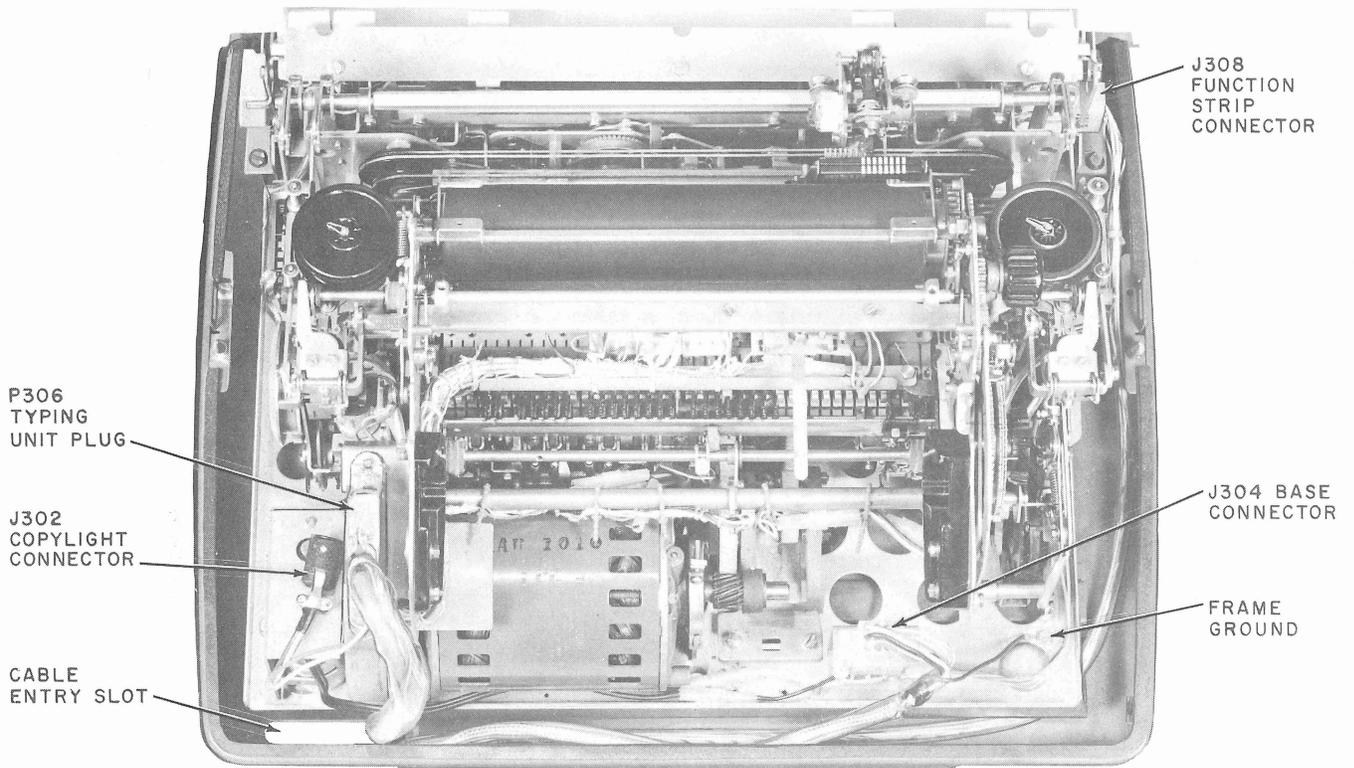
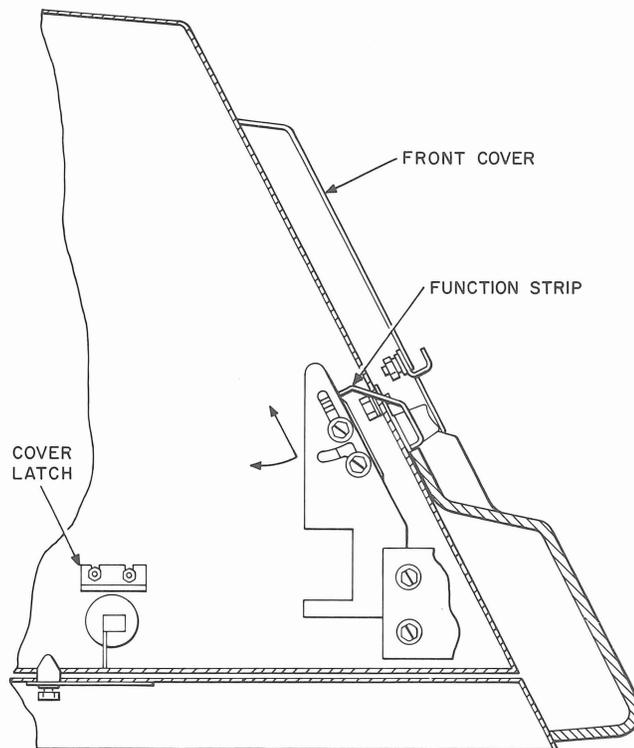

Fig. 3—Typing Unit
Fig. 4—Cover and Function Strip
(3) Disconnect J302 connector. J302 is located at the right rear of the typing unit, next to the AMPHENOL® connector P306 (Fig. 3).
(4) After J302 is disconnected, hold cover in open position and remove screw holding retaining arm to right side of cover. Slide cover to the right to disengage hinges holding the hinge retainer on the left side.
- (1) Perform 2.01 (cover removal).
- (2) Disconnect P306 connector (Fig. 3).
- (3) Remove paper supply from typing unit.
- (4) Loosen four mounting screws at ends of function key and lamp strip; lift strip and rotate forward to provide clearance for typing unit removal (Fig. 4).
- (1) Perform 2.01 (1) through (4) (cover removal).
- (2) Disconnect P302, P306, J304, J308, and ground strap (Fig. 3).